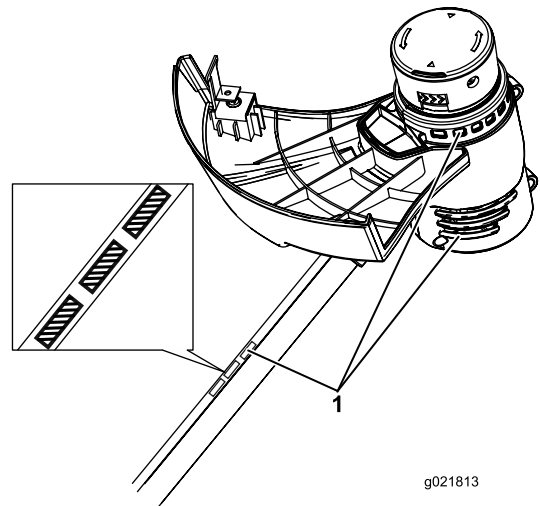

Figure 18
5. Brush debris away from the air vents on the motor housing and shaft to prevent the motor from overheating (Figure 18).